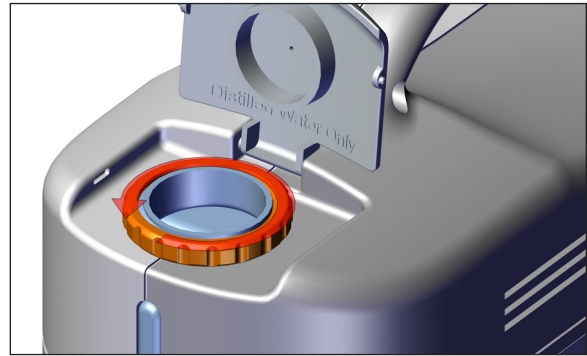

Figure 20 - Step 5 Remove collar
5. Remove the reservoir collar (Figure 20).